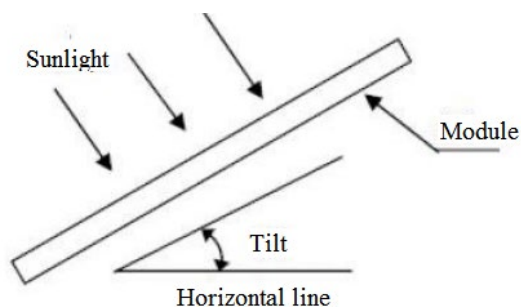

Figure 2 PV module tilt angle
2.2.4 The tilt angle of solar modules refers to the angle between the module's surface and the horizontal plane. As shown in Figure 2, the power output is maximized when the module's surface is perpendicular to sunlight. It is recommended that the module installation angle is not less than 10 degrees. For detailed information on the optimal installation tilt angle, please consult a reputable local solar system installation company.